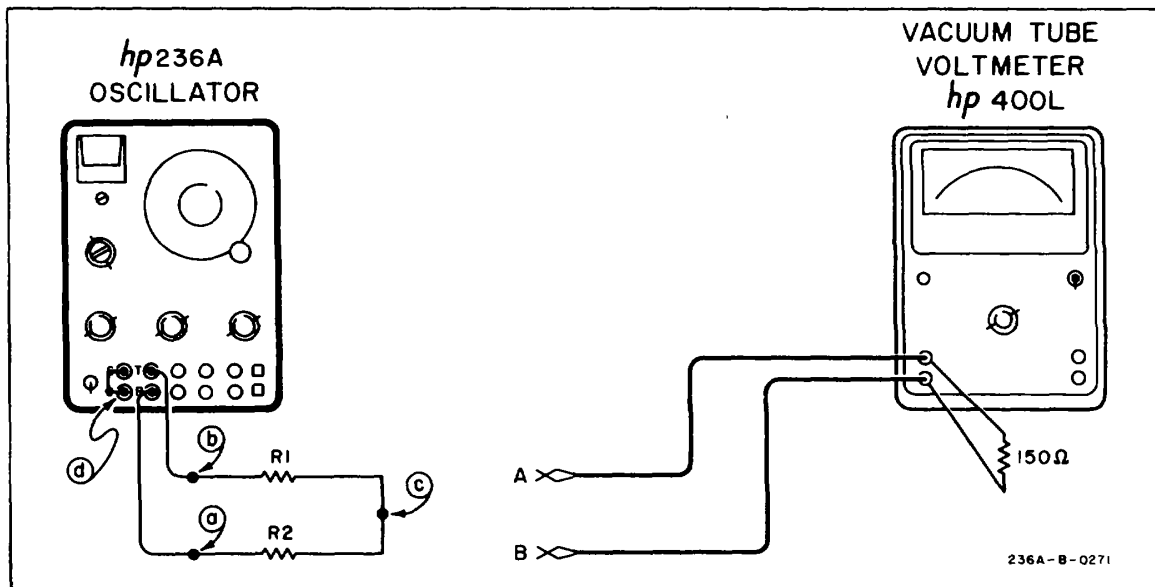

Figure 5-5. Output Balance Check
- b. Connect the 300 ohm matched resistors R1 and R2 as shown in Figure 5-5. Do not connect 150 ohm resistor across voltmeter inputs at this time.